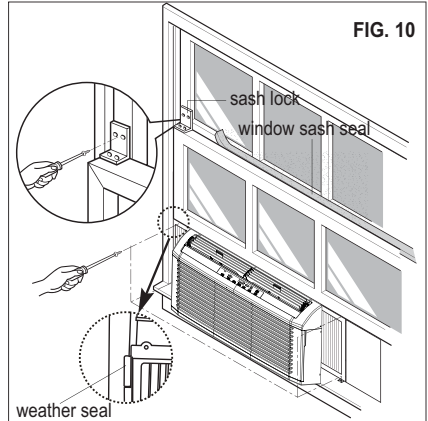

FIG. 10
Expand the filler panels and secure them using 4 screws as shown in FIG.10. When filler panels opens or closes, you may feel a slight resistance. This is normal.
- * Cut the window sash seal to the window width. Stuff the window sash seal between the glass and the window to prevent air and insect from getting into the room, as shown in FIG.10.
- * Trim the weather seal (6"X3/4"X1/2") to a proper length, peel off the protective backing and plug any gaps if needed as shown FIG.10.
- * Install the sash lock bracket to prevent window from being raised which may result in unit falling, as shown in FIG.10.